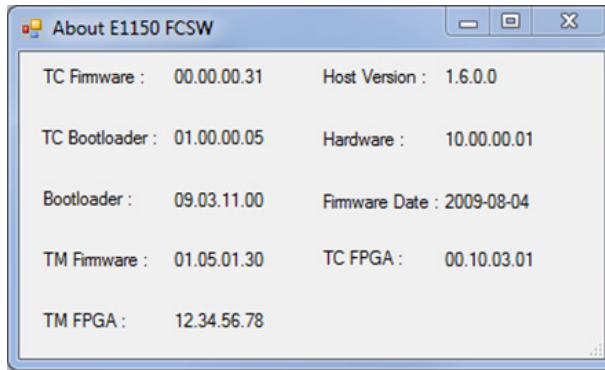

Figure 3 – E1150 FCSW About Window
4. To view the FCSW and E1150 Version information, click on **Help** and then **About** (Figure 3).
Note: The firmware version shown in Figure 3 is for example only. Your version information may be different.